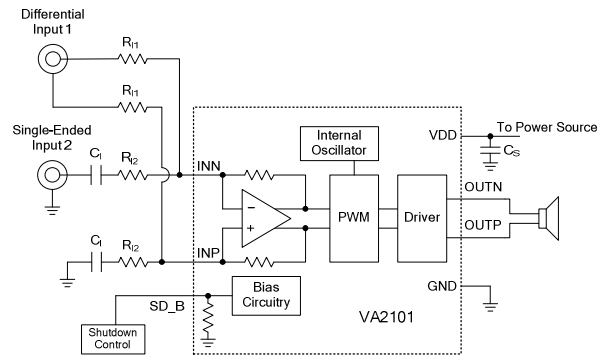

Figure 6. Dual Input with a Single-Ended Input and a Differential Input Configuration
A typical application with one single-ended source and one differential source shows in Figure 6. Ground noise can couple in through INP terminal with this method. It is better to use dual differential inputs. The cut-off frequency of the single-ended input is set by  $C_1$  shows in Equation (13). To assure that each input is balanced, the single-ended input must be driven by a low-impedance source even if the input is not in use.